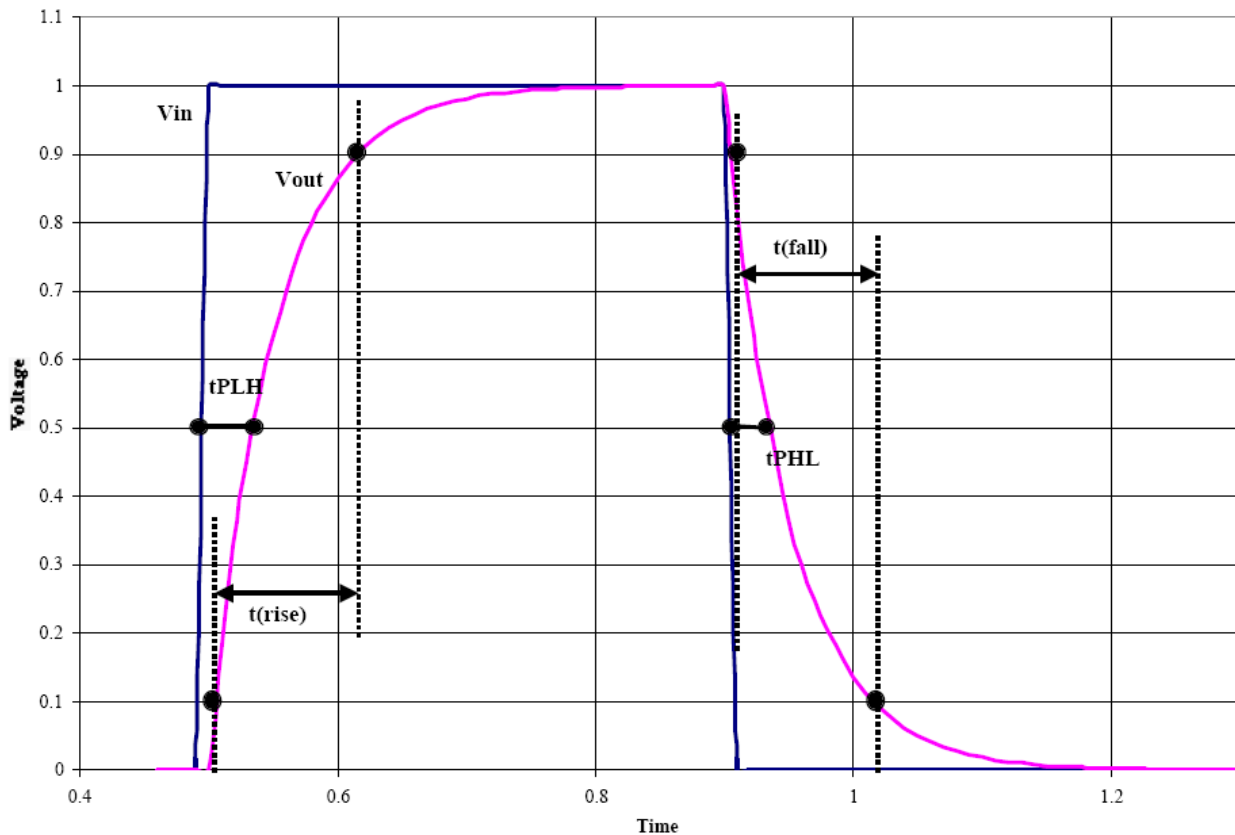

Figure 3. Timing parameters of signal waveforms.
The step response of a simple RC circuit, illustrated in Figure 3, is an exponential signal with time constant $\tau = RC$. Besides this timing parameter, four other timing parameters are important in describing how fast or how slow an RC circuit responds to a step input. These timing parameters are marked in Figure 3, at three voltage levels:
Another use of RC circuits is to model wiring characteristics of bus lines on integrated circuits (IC) or on printed-circuit boards (PCB). A wire can be modeled as many cascaded sections of simple RC circuits as shown in Figure 3 using 2 sections. When a square wave is applied to one end of the bus, it takes time for the signal to propagate to the other end. This delay time due to the wire can be calculated based on the values of R and C in each section and the number of sections used to model the wire. The longer the wire, the more sections are needed for accurate model. A wire is also referred to as “interconnect” and the delay due to a wire is also called “interconnect delay.” In high-frequency systems, the interconnect delay tends to dominate the gate delay and is a fundamental constraint on how fast a computer can operate.